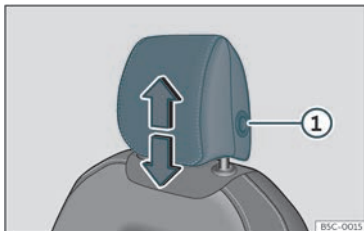
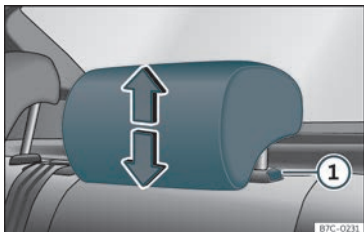

Fig. 101 Front seat: headrest adjustment.
Fig. 102 Rear headrest: headrest adjustment.
»» Fig. 101»» Fig. 102.
- Press the side button»» Fig. 101 ① and remove the headrest.